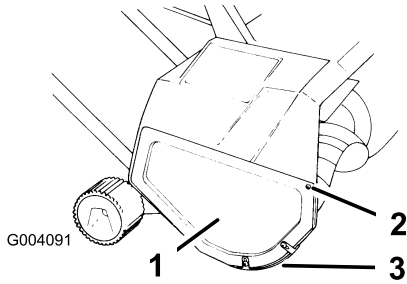

Figure 13
1. Remove the 3 screws that secure the right side cover and the skid to the snowthrower frame (Figure 13).